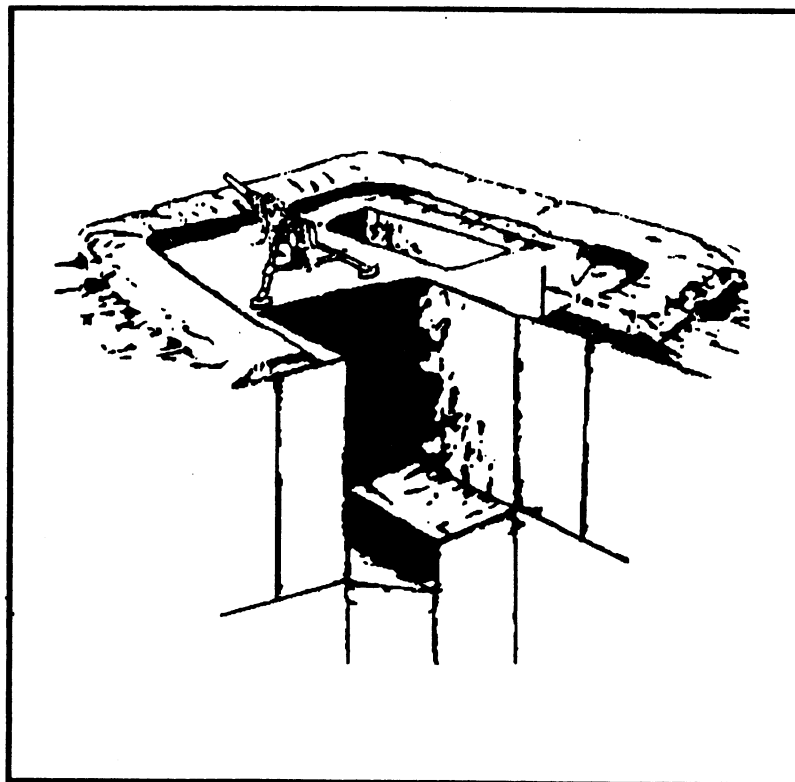

Fig 5-4. Two-hole position.
d. Two-hole position. The two-hole position uses two one-man fighting holes at a 90 degree angle to each other. The advantages of this position are that it provides excellent protection for the gunner and the team leader, and it covers primary and alternate sectors of fire. Its disadvantage is that it offers limited traverse of the gun. Refer to figure 5-4 as you read the following steps:
- (1) Lay the machinegun on the direction of fire and mark the location of the gun position.
- (2) Dig around the gun position that is armpit deep. For cover, place the removed dirt around the position to form a parapet that is 3 feet wide.
- (3) Dig a grenade sump in the rear position.
- (4) Camouflage the position in a way that does not obstruct the machinegun's operation.